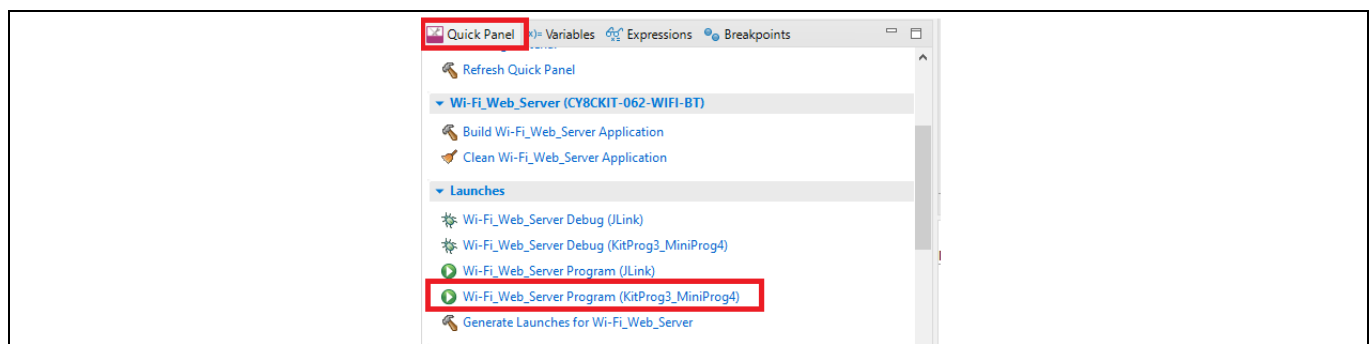

Figure 15 Programming in ModusToolbox™ software
4. To build and program a PSoC™ 6 MCU application, in the Project Explorer, select **<App_Name>** project. In the Quick Panel, scroll to the **Launches** section and click the **<App_Name> Program (KitProg3_MiniProg4)** configuration as shown in **Figure 15**.